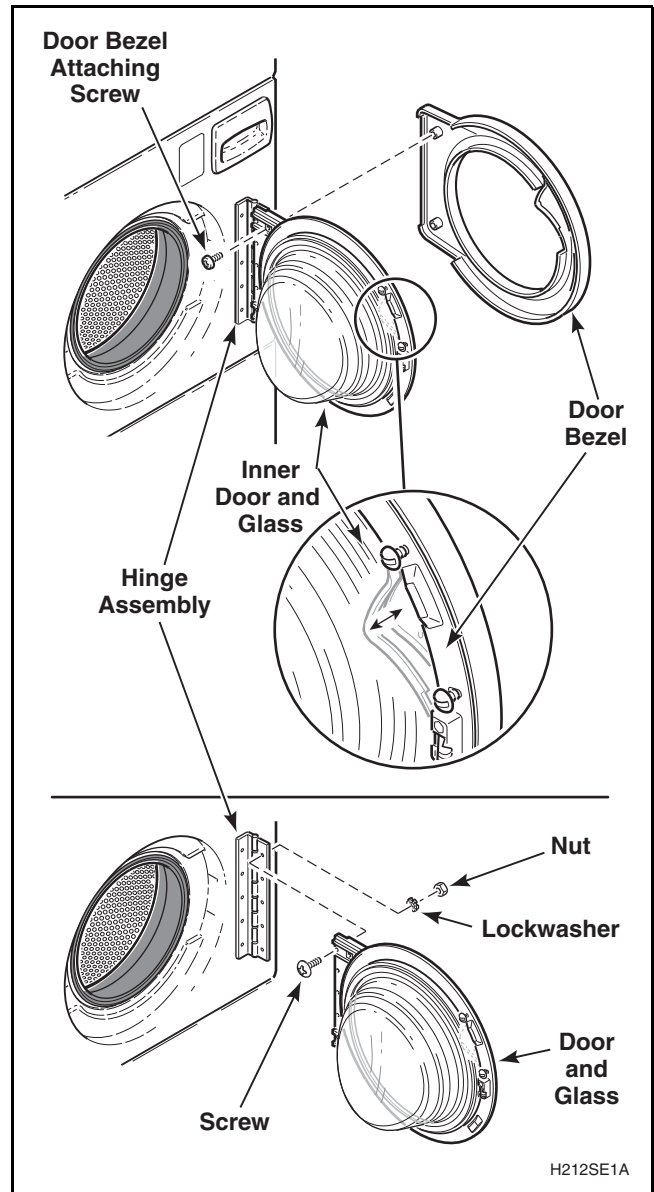

Figure 49
- Remove door bezel by removing screws holding door bezel to inner door and glass. Refer to *Figure 49*.
- While supporting loading door, remove screws, lockwashers and nuts holding loading door to hinge assembly and remove door. Refer to *Figure 49*.